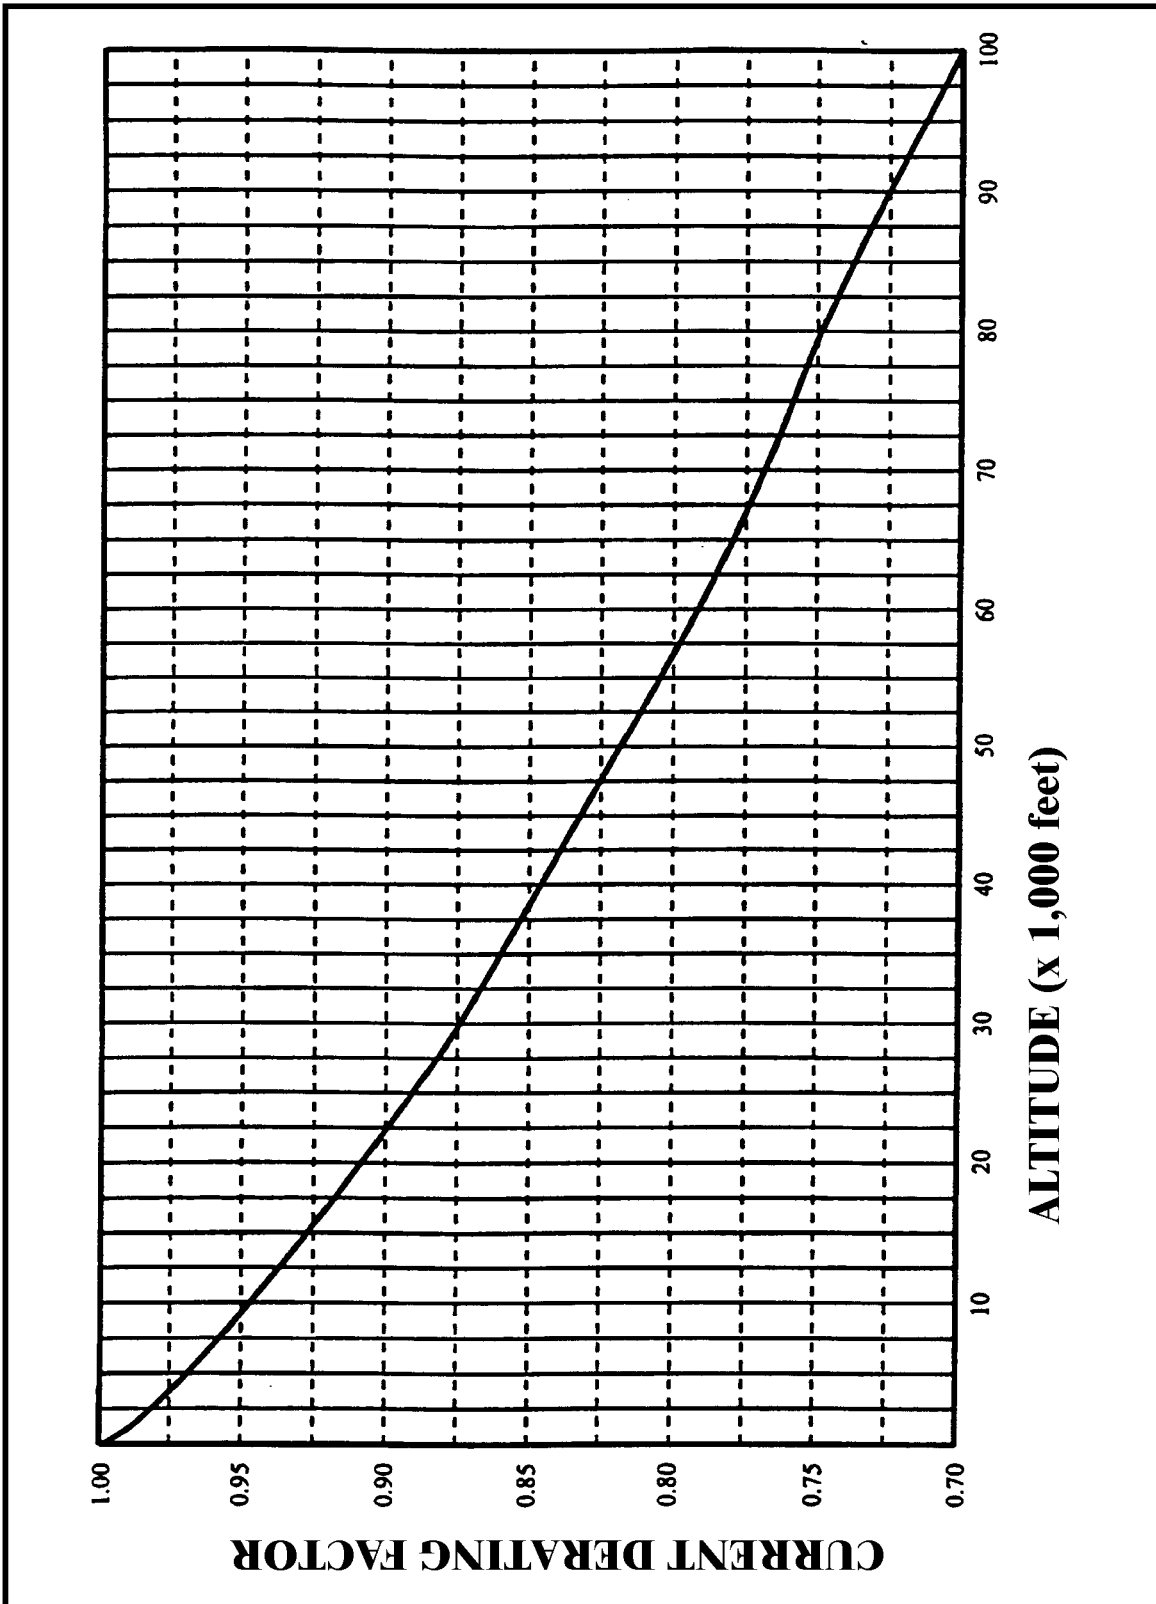

FIGURE 11-6. Altitude derating curve.
**e. Harness at Altitude.** Since heat loss from the bundle is reduced with increased altitude, the amount of current should be derated. Figure 11-6 gives a curve whereby the altitude-derating factor may be obtained.
(5) Use figure 11-6, find the derate factor for 8 wires in a bundle at 60 percent. First find the number of wires in the bundle (8) at bottom of graph and intersect with the 60 percent curve meet. Read derating factor, (left side of graph) which is 0.6. Multiply 0.6 x 42.77 Amps = 26 Amps.
**STEP 4:** Refer to the “altitude derating curve” of figure 11-6, look for 60,000 feet (on the abscissa) since that is the altitude at which the vehicle will be operating. Note that the wire must be derated by a factor of 0.79 (found on the ordinate). Derate the size #22 harness rating by multiplying 8.4 amps by 0.79 to get 6.6 amps. Derate the size #20 harness rating by multiplying 11.2 amps by 0.79 to get 8.8 amps.
**STEP 4:** Refer to the “altitude derating curve” of figure 11-6, look for sea level and 20,000 feet (on the abscissa) since these are the conditions at which the load will be carried. The wire must be derated by a factor of 1.0 and 0.91, respectively.